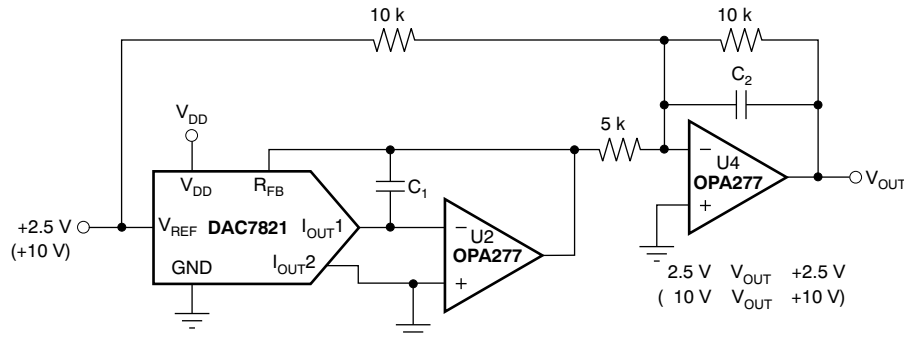

Figure 29. Bipolar Output Circuit
Some applications require full 4-quadrant multiplying capabilities or bipolar output swing. As shown in Figure 29, external op amp U4 is added as a summing amp and has a gain of 2X that widens the output span to 5 V. A 4-quadrant multiplying circuit is implemented by using a 2.5 V offset of the reference voltage to bias U4. According to the circuit transfer equation given in Equation 2, input data (D) from code 0 to full-scale produces output voltages of  $V_{OUT} = -2.5$  V to  $V_{OUT} = +2.5$  V.
External resistance mismatching is the significant error in Figure 29.